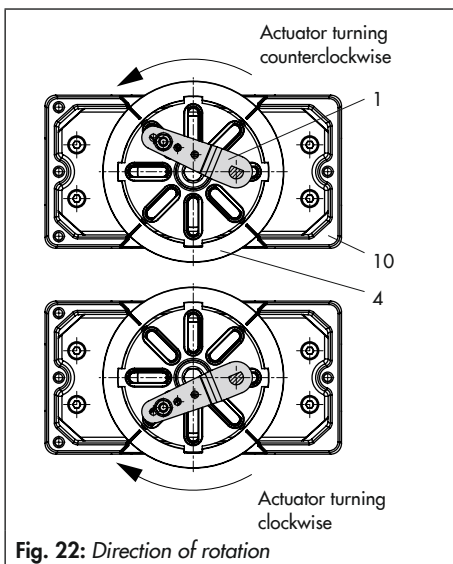

Fig. 22: Direction of rotation
2. Place coupling wheel (4) with flat side facing the actuator on the follower clamp (3). Refer to Fig. 22 to align slot so that it matches the direction of rotation when the valve is in its closed position.
3. Fasten the coupling wheel (4) and follower clamp (3) tightly onto the actuator shaft using screw (4.1) and disk spring (4.2).
4. Fasten the bottom pair of brackets (10.1) with the bends pointing either facing to the inside or to the outside (depending on the actuator size) onto the actuator housing. Position the top pair of brackets (10) and fasten.
5. Mount connecting plate (6) or pressure gauge bracket (7) with pressure gauges on the positioner, making sure the two seals are seated properly. Double-acting springless rotary actuators require the use of a reversing amplifier on the connection side of the positioner housing (see Chapter 5.10).
6. Unscrew the standard follower pin (2) from the positioner's **M** lever (1). Use the metal follower pin (\varnothing 5 mm) included in the mounting kit and screw tight into the hole for pin position **90°**.
7. Place positioner on the top bracket (10) and fasten tight. Taking the actuator's direction of rotation into account, adjust lever (1) so that it engages in the slot of the coupling wheel (4) with its follower pin (Fig. 22). It must be guaranteed that the lever (1) is parallel to the long side of the positioner when the actuator is at half its angle of rotation.
- For **SAMSON Type 3278 and VETEC S160 Rotary Actuators**, fasten the adapter (5) onto the free end of the shaft and for **VETEC R Actuator**, place on the adapter (5.1). For **Type 3278, VETEC S160 and VETEC R Actuators**, place on the adapter (3). or **VDI/VDE version**, only use the adapter when it is required due to the actuator size.
- Fasten coupling wheel (4) on the slotted actuator shaft or adapter (3) using screw (4.1) and disk spring (4.2).
- Unscrew the standard follower pin (2) from the positioner's M lever (1). Attach the follower pin ($\varnothing 5$ mm) included in the mounting kit to pin position 90° .
- Mount connecting plate (6) for required $G \frac{1}{4}$ connecting thread or pressure gauge bracket (7) with pressure gauges on the positioner, making sure the two seals (6.1) are seated properly. Double-acting springless rotary actuators require the use of a reversing amplifier on the connection side of the positioner housing (see Chapter 5.10).
- Place positioner on housing (10) and screw it tight. Taking the actuator's direction of rotation into account, adjust lever (1) so that it engages in the correct slot with its follower pin (Fig. 22).